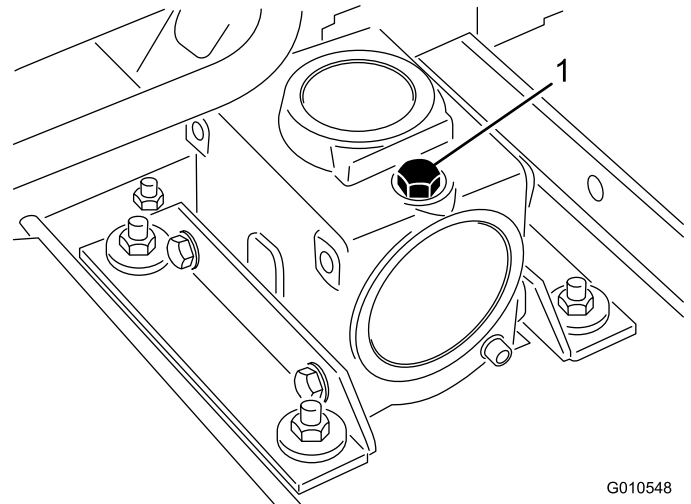

Figure 16
- ### 2. Position the machine and cutting unit on a level surface and lower the cutting unit. Remove the dipstick/fill plug from the top of the gear box (Figure 16) and make sure that the lubricant is between the marks on the dipstick. If the lubricant level is low, add SAE 80-90 wt. gear lube until the level is between the marks.